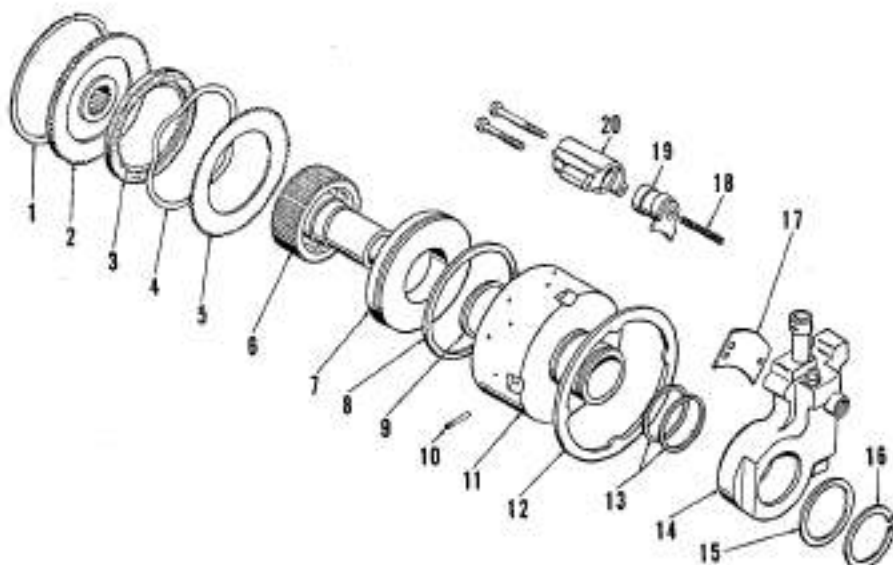

Fig. 167—Exploded view of independent pto multiple disc clutch and hydraulic brake unit.
181. **OVERHAUL.** To disassemble the removed clutch and valve unit, proceed as follows: Remove snap ring (16—Fig. 167) and thrust washer (15), then withdraw control valve housing (14) with brake cylinder (20) from clutch housing (11). Brake disc (12) is retained to clutch housing by two pins (10). Unbolt and remove brake cylinder (20), piston (19) and wear plate (17) from valve housing.
Install seal rings (13—Fig. 167) on clutch housing and lubricate with hydraulic oil. Install valve housing (14), thrust washer (15) and snap ring (16). Assemble brake piston (19), spring (18) and cylinder (20). Position wear plate (17) under brake disc, then install brake cylinder assembly using a new "O" ring.